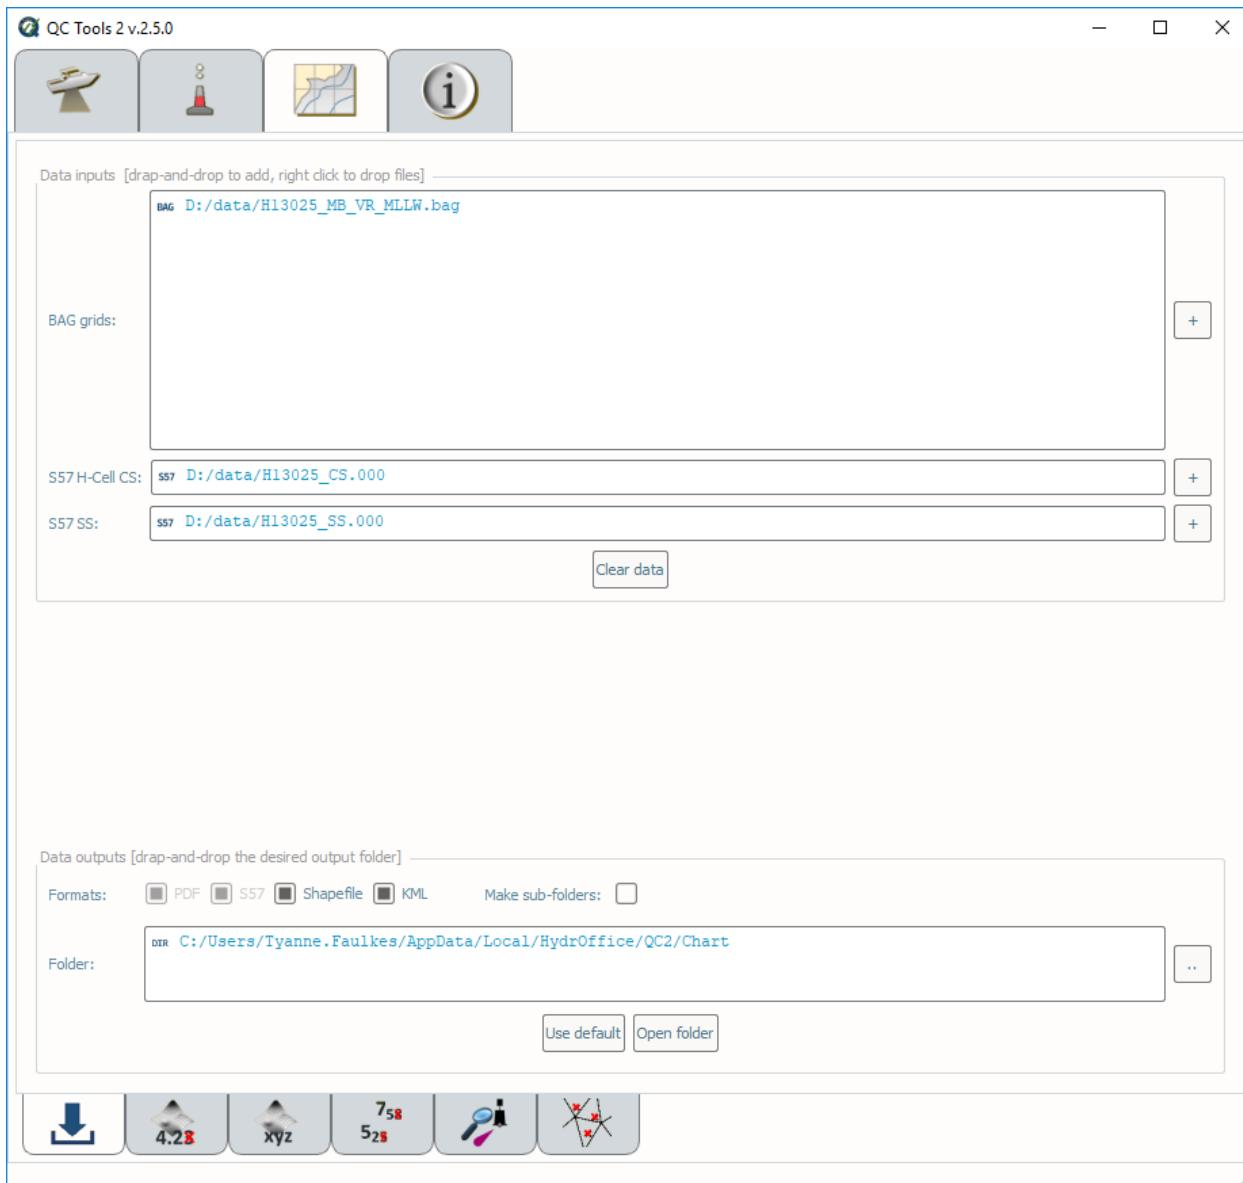

Fig. 2.56: Chart review tab.
- With the addition of a grid, feature file, and survey sounding selections, the **Grid truncate**, **Grid xyz**, **S57 truncate**, **Triangle Rule**, and/or **Scan Features** tabs on the bottom of the interface will become available (Fig. 2.56).